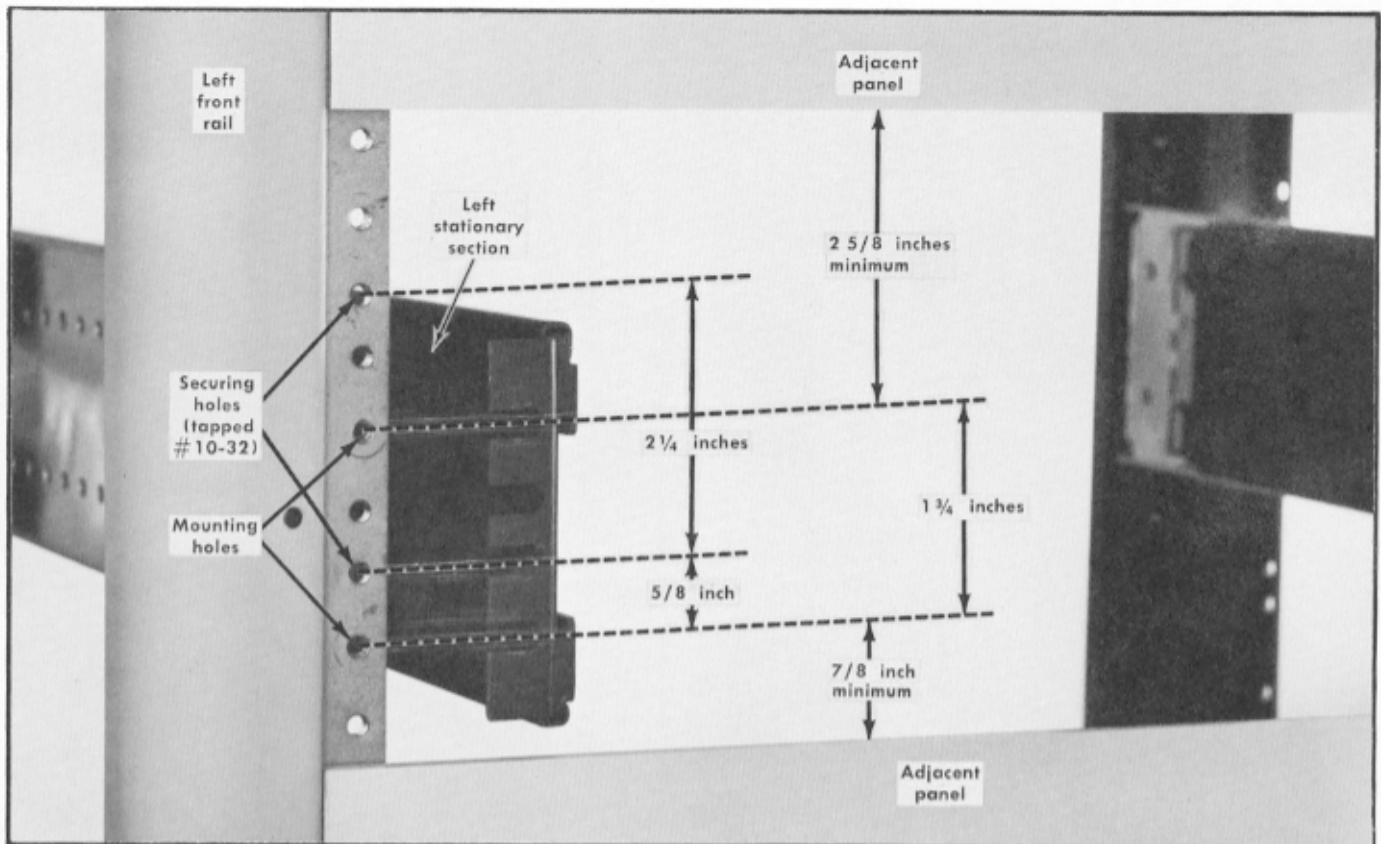

Fig. 11-6. Vertical mounting position of the left stationary section. The same dimensions apply for mounting the right stationary section.
1. Select the proper front-rail mounting holes for the stationary sections using the measurements shown in Fig. 11-6.